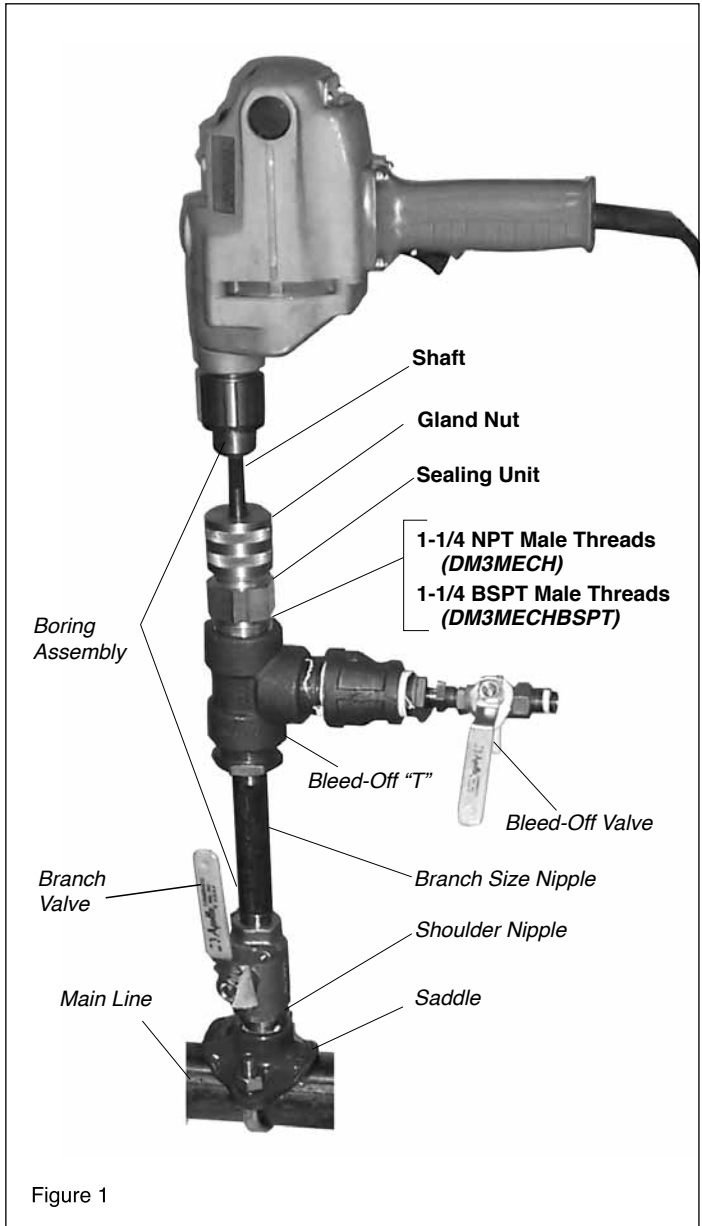

Figure 1
5. Branch size 1 1/4" NPT "T" or 1 1/4" BSPT "T" and appropriate reducer bushings. (Labeled as Bleed-Off "T", Figure 1.)
6. Valve or hose bib, and appropriate pipe nipple and reducer bushings. (Labeled as Bleed-off Valve, Figure 1.)
7. Assemble appropriate bleed-off "T" and branch nipple to the Main Body. See Figures 1 and 2 for details.
11. Attach the boring assembly to the gate valve. See Figure 1 for details.